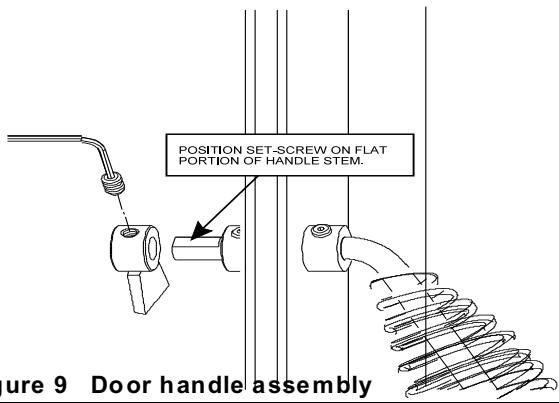

Figure 9 Door handle assembly
- Position handle assembly through door and secure with collar by sliding over shaft and tightening with allen wrench provided (**Figure 9**).